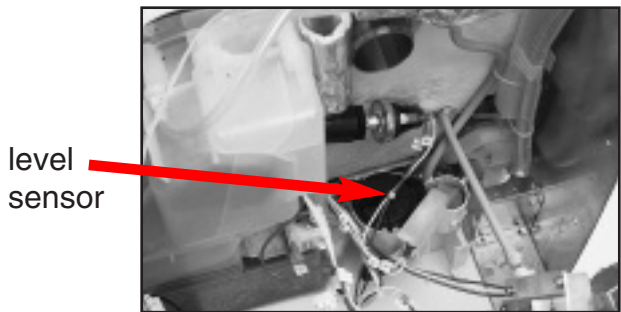

Figure 21
5. With the troubleshooting window in place, start a cycle. After filling, the water level should be approximately 10-15mm below the lower wash arm. If the water level is not correct, replace the level sensor (Figure 21). If the water level is OK, proceed to step 6.